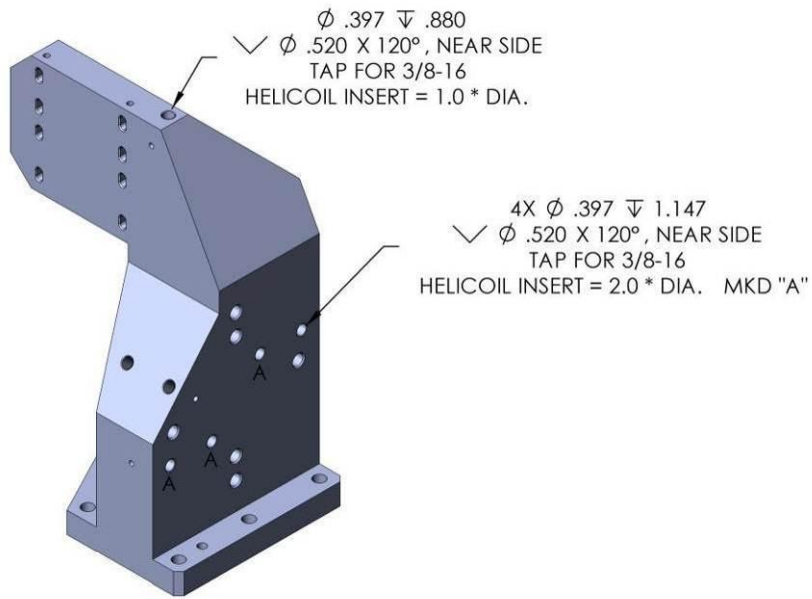

Figure 148: Prep Work for D0901554 Stage 0-1 Actuator Post
(1) 3/8-16 x 1 DIA Helicoils
(4) 3/8-16 x 2 DIA Helicoils
- Install Nitronic 60 Helicoil threaded inserts into D0901554. See Figure 148.